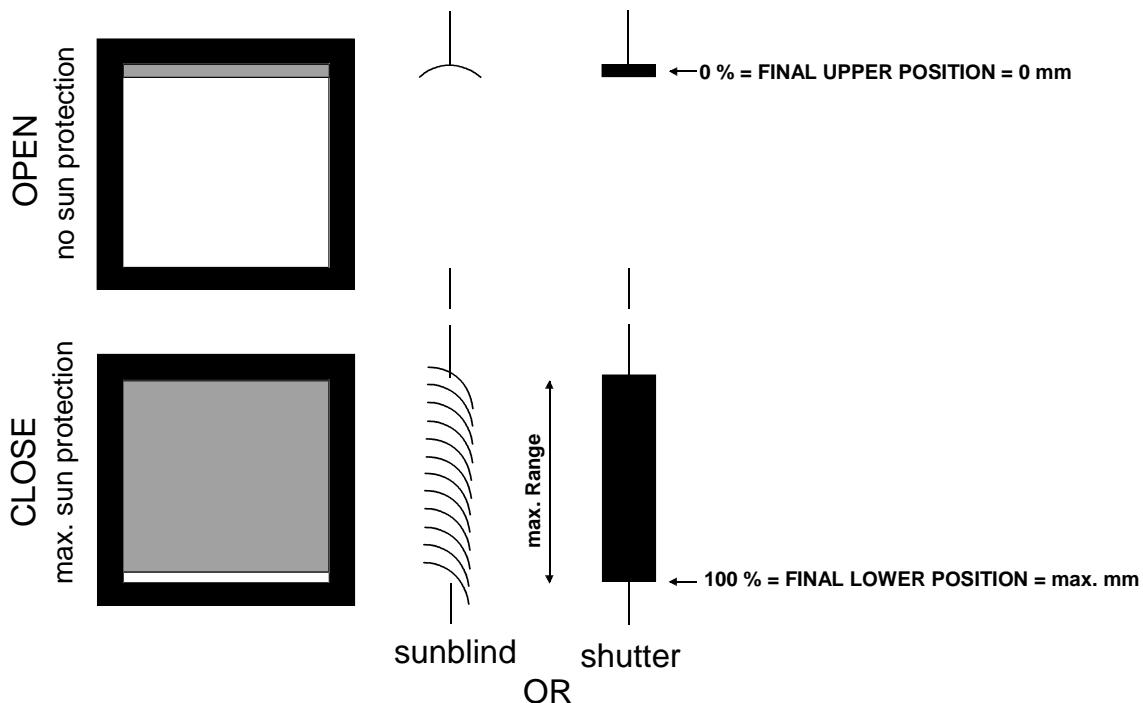

Figure 5 – Definition of the drive positions
- 0 % Position of the shutter/blind is defined as that position up from which the shutter/blind starts moving downwards (the shutter is in the final upper position; the shutter is completely „open“, see Figure 5 above).
- 100 % Position of the shutter/blind is defined as that position up from which the shutter/blind starts moving upwards (the shutter is in the final lower position; the shutter is completely „closed“, see Figure 5 above).
„Zero millimeter“ = 0 mm is defined as the starting position of the shutter/blind (no sun protection, see Figure 5 above). Both top down and bottom up movement of shutters/blinds are possible. No negative absolute position values are allowed.